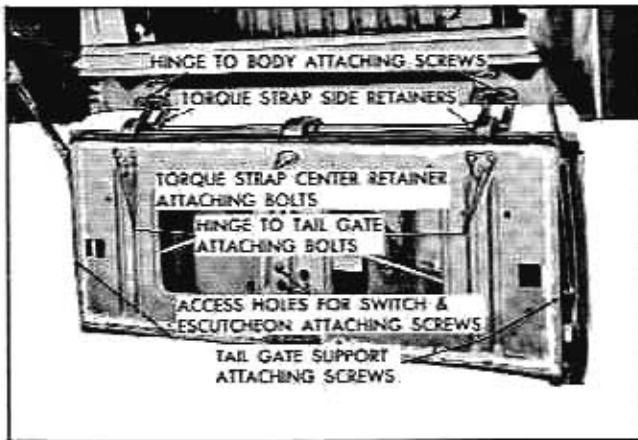

Fig. 4-12 Tail Gate Ass'y-Removal
6. Loosen (**DO NOT REMOVE**) tail gate-to-hinge attaching bolts at both hinges and torque strap center retainer attaching bolts (Fig. 4-12).
8. With aid of a helper raise tail gate to approximately a vertical position to relieve torque from strap; then remove tail gate-to-hinge attaching bolts and torque strap center retainer attaching bolts (Fig. 4-12). Lift tail gate assembly upward to remove from hinges and torque strap center retainer.
2. Remove torque strap side retainer at each tail gate hinge (Fig. 4-12) and remove torque strap from body.